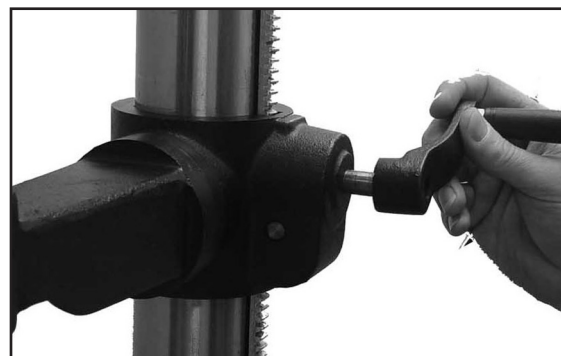

Figure 4
7. Install the raising/lowering crank handle onto the table bracket's worm gear shaft with a hex wrench (Figure 4). The handle's set screw must line up and be secured on the flat section of the table support's worm gear shaft.